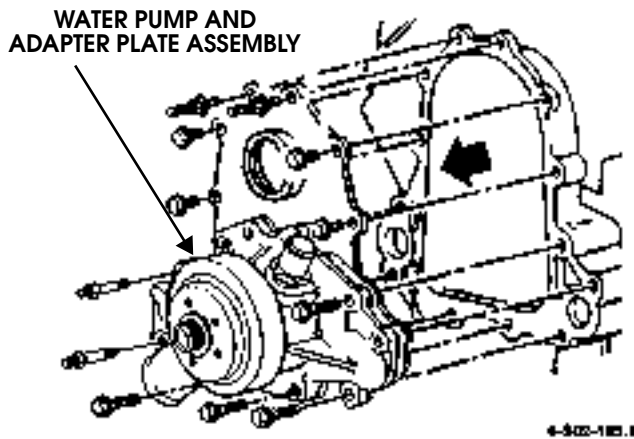

Figure 2-84: Water Pump and Adapter Plate Removal
2. Remove water pump and adapter plate from timing gear cover (Figure 2-84). Note location of attaching studs and bolts for installation reference.